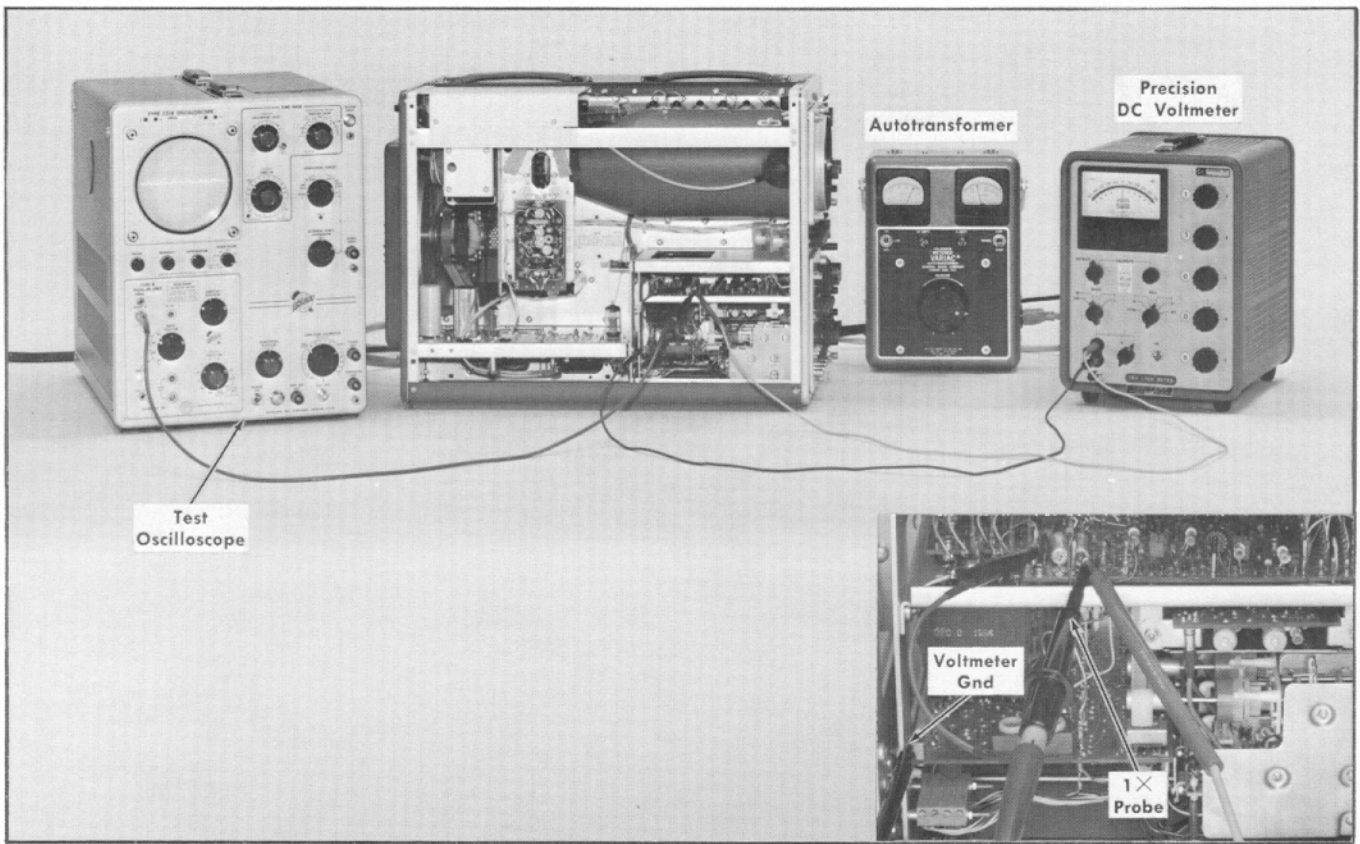

Fig. 7-13. Test equipment setup for step 8.
a. Test equipment setup, with connections made at completion of step 8d, is shown in Fig. 7-13.
b. Connect the precision DC voltmeter between ground and the -15V test point located on the Logic board (see Fig. 7-14A). A convenient ground location is the metal mounting block for the Output Amplifier board (see Fig. 7-13).